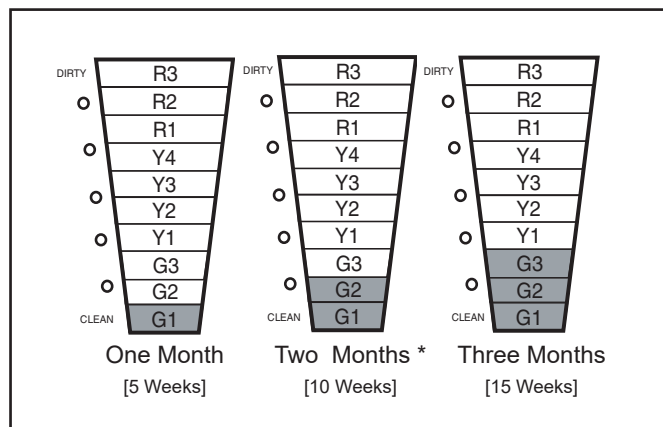

Figure 24 Green LED Pre-Filter Settings
- The three GREEN LED's are used to indicate PRE-FILTER cleaning interval. This is measured in actual run time of the indoor fan. The default setting is 2 months [10 weeks]. See Figure 24.
### PRE-FILTER SETTING (Figure 24) 24V Mode Only.